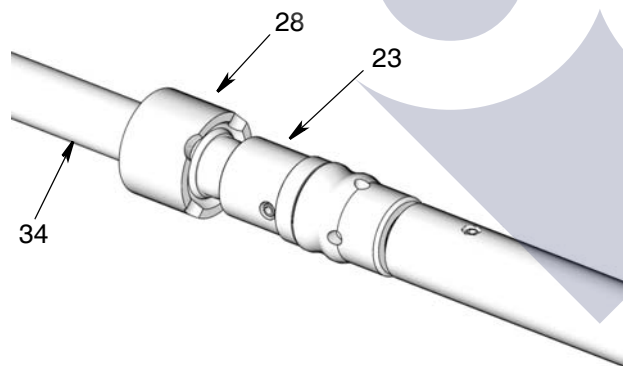

Fig. 20
19. Screw the piston rod (23) and priming rod (34) together aligning the pin hole in both pieces to allow the pin to be pushed through (Fig. 20).
20. Replace the pin (8). Use a rubber hammer to tap the pin into place, being careful to make sure the sides of the pin are flush with the outside surface of the piston rod (Fig. 20)
intake seal on the priming rod as shown in Fig. 20.